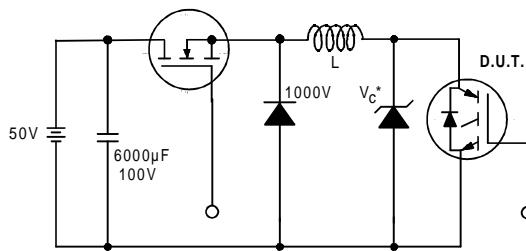

Figure 19. Clamped Inductive Load Test Circuit
- ② $V_{CC}=80\%$ (V_{CES}), $V_{GE}=20V$, $L=10\mu H$, $R_G = 23\Omega$ (figure 19)
- ③ Pulse width $\leq 80\mu s$; duty factor $\leq 0.1\%$.
- ④ Pulse width $5.0\mu s$, single shot.
- ⑤ When mounted on 1" square PCB (FR-4 or G-10 Material).